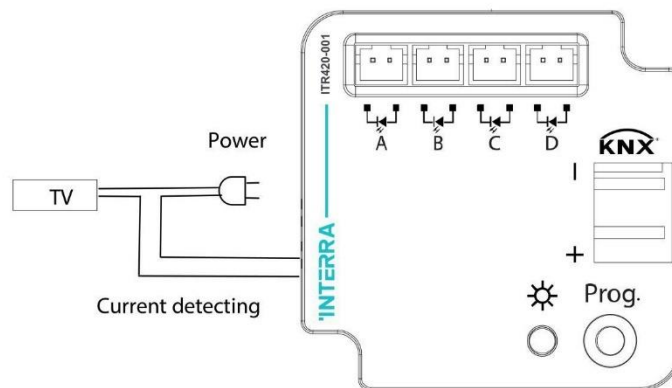

Fig 15 : Current Detect Parameter Page
- Figure 15 shows the current detection circuit diagram.